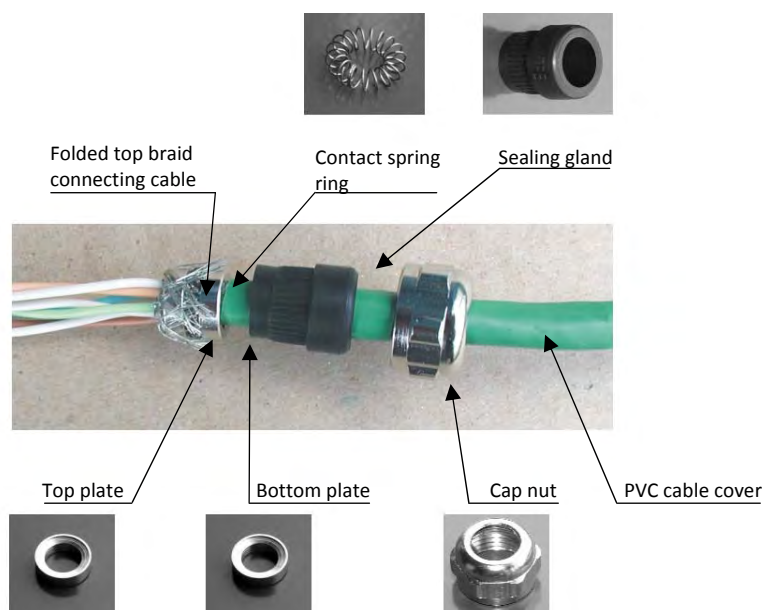

Figure 23 The grommet installation
- The twisted shield will be untwisted and released somewhat. Then it will be pulled over the washers on the cable and shortened at the bottom washer (figure 23). No wire of the shielding must go over the bottom washer, in order to tighten the sealing grommet by the pull-over nut well on the cable, and thus seal the grommet properly.